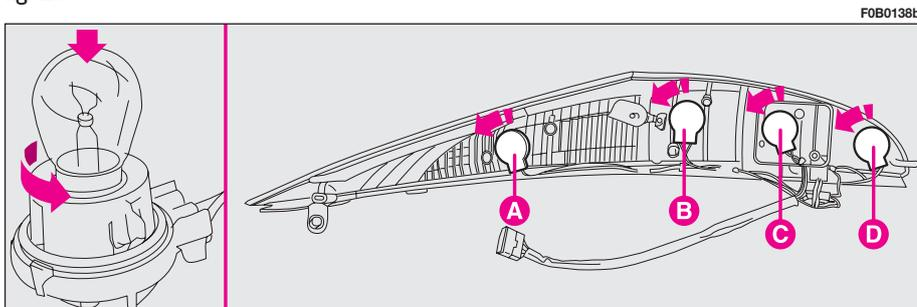

fig. 26
– Take off the bulb holders by turning them slightly anticlockwise **fig. 26:**